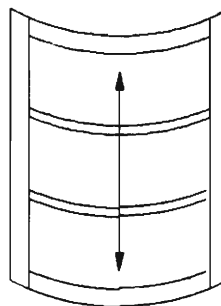

FIGURE 10-37: How to prevent diaphragm collapse in curved cell.
- The diaphragm must be tensioned in only one direction, along the axis of an imaginary cylinder. If the diaphragm is stretched along the circumference, it will be pulled into the inner stator and short the cell (Fig. 10-37).